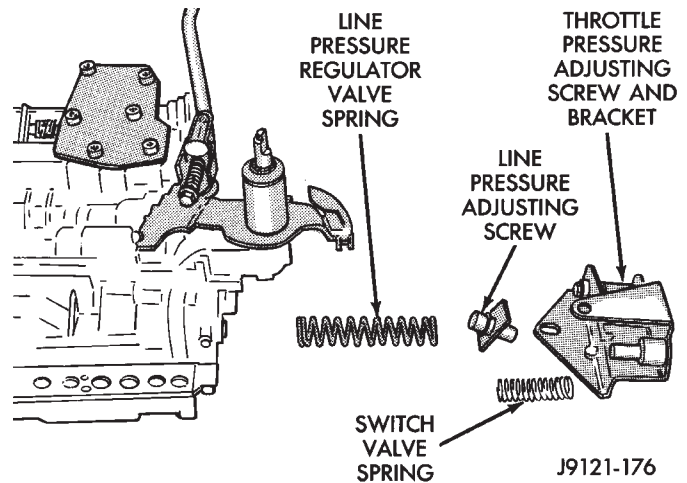

Fig. 102 Adjusting Screw Bracket And Spring Removal
- (1) Remove screws attaching adjusting screw bracket to valve body and transfer plate. Hold bracket firmly against spring force while removing last screw.
- (2) Remove adjusting screw bracket, line pressure adjusting screw, pressure regulator spring and switch valve spring (Fig. 102). **Do not remove throttle pressure adjusting screw from bracket and do not disturb adjusting screw settings during removal.**